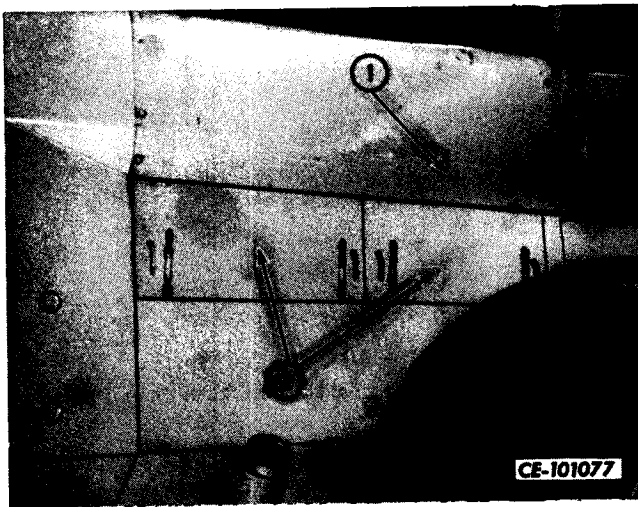

Figure 3-8
Remove hood panels (2, Fig. 3-8). Remove exhaust stack. Remove hood retaining cap screws and with a suitable sling and hoist, remove hood (1).